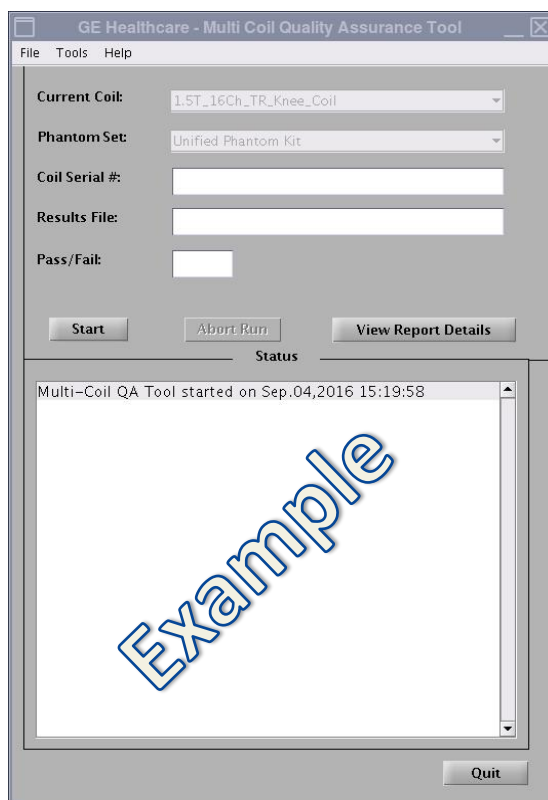

Figure 3
The current coil field will be automatically filled in (Figure 3), based on the CoilID of the coil connected to the LPCA. Enter the serial number of the coil being tested in the Coil Serial number field.
2. Click on **[Start]** to begin the automated test as shown in Figure 3. Depending on the number of test locations (complexity of the coil) the test may take from 3 to 5 minutes.